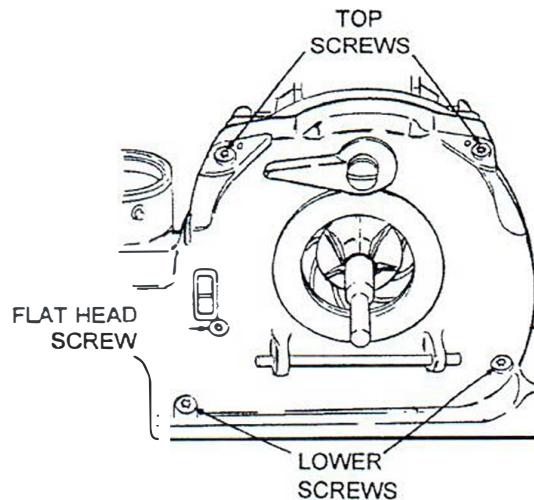

Figure 7. Fan Case Assembly Screw Removal
- 1. *See Figure 7.* Remove one flat head screw from front of fan case assembly. This screw is located just below the power switch interlock.